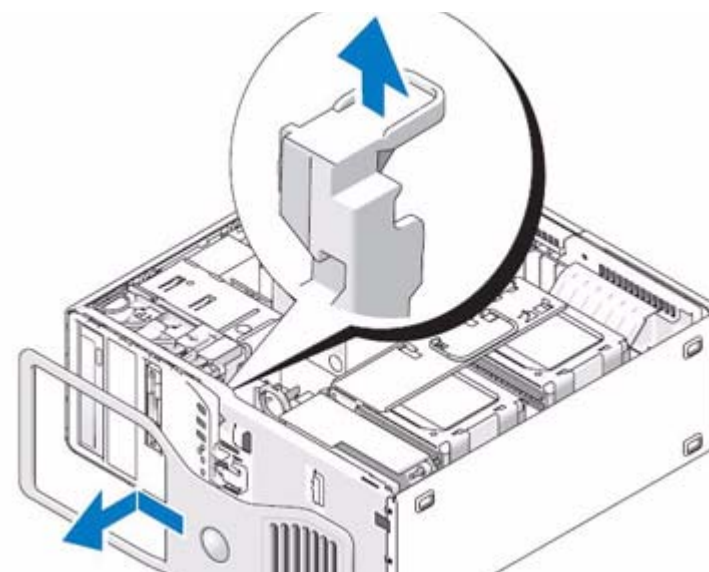

Figure 15:
6. Lift the front panel Release Lever, slide the front panel toward the top of the computer and then lift to remove the panel. When you are done, put it in a safe place as shown in Figure 15 on page 21.